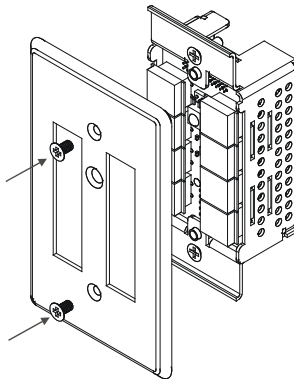

Figure 7: Mounting the Faceplate
1. Place the faceplate on the **RC-8IR** so that the two screw mounting holes are aligned (see Figure 7).